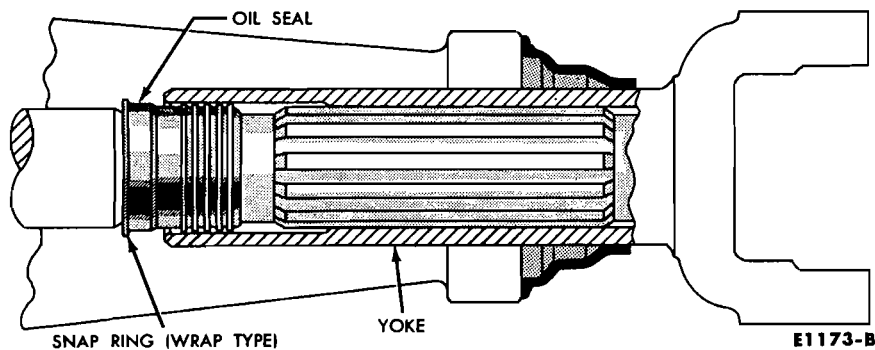

FIG. 3—Output Shaft Spline Seal
2. Lubricate the yoke spline with B8A-19589-A lubricant. This spline is sealed so that the transmission fluid does not "wash" away the spline lubricant (Fig. 3). Remove the tool from the extension housing. Install the yoke on the transmission output shaft.